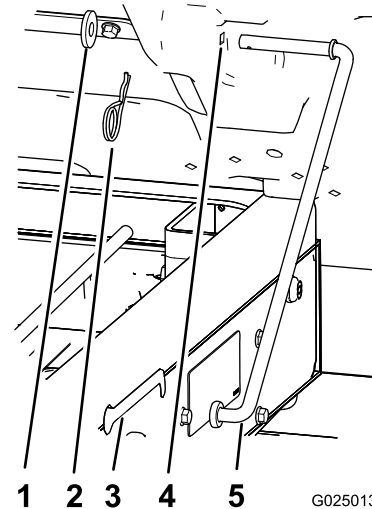

Figure 12
1. Remove the hairpin and washer that secure the prop rod to the bottom of the bed (Figure 12).
2. Slide the prop rod forward to remove it from the bracket on the frame (Figure 12).